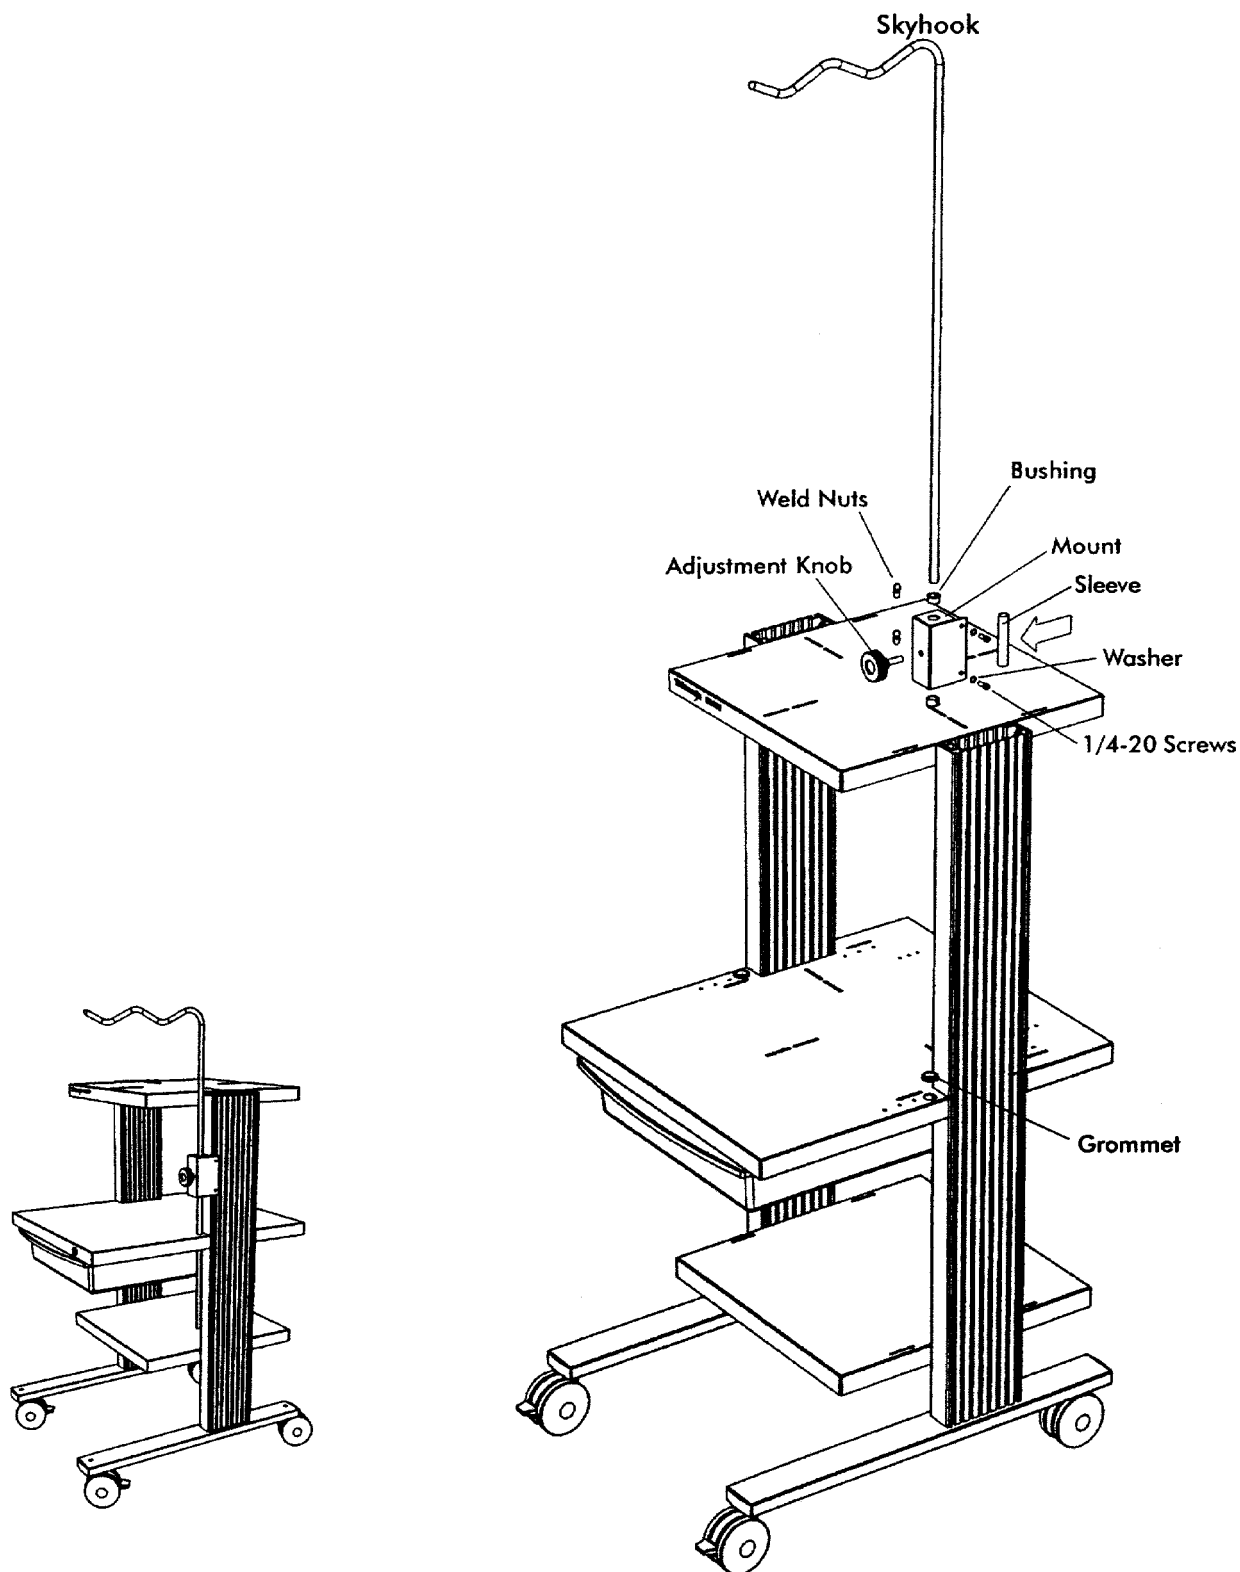

Figure 14: Installing the Skyhook
3. Prepare the skyhook by first pressing the bushings into the holes in the top and bottom of the mount as shown in Figure 14. Next place the sleeve on the inside of the mount and align the sleeve with the openings in the top and bottom of the mount. Slide the skyhook through the top of the mount and through the sleeve. Now install the adjustment knob and tighten lightly to secure the skyhook.